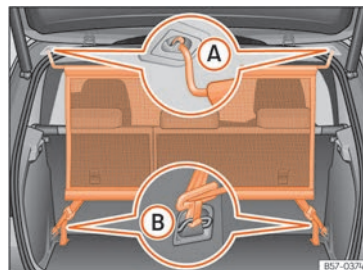

Fig. 128 Net partition fitted.
- Secure the net partition in the left housing of the roof » Fig. 128 (A). Make sure to move the cross rod down beyond the upper position.
- Hook in the net partition on the rear right-hand side roof housing by pressing on the rod » Fig. 128 (A).
- Secure two hooks of the partition net to the fastening rings of the boot » Fig. 128 (B) and tighten the straps firmly.